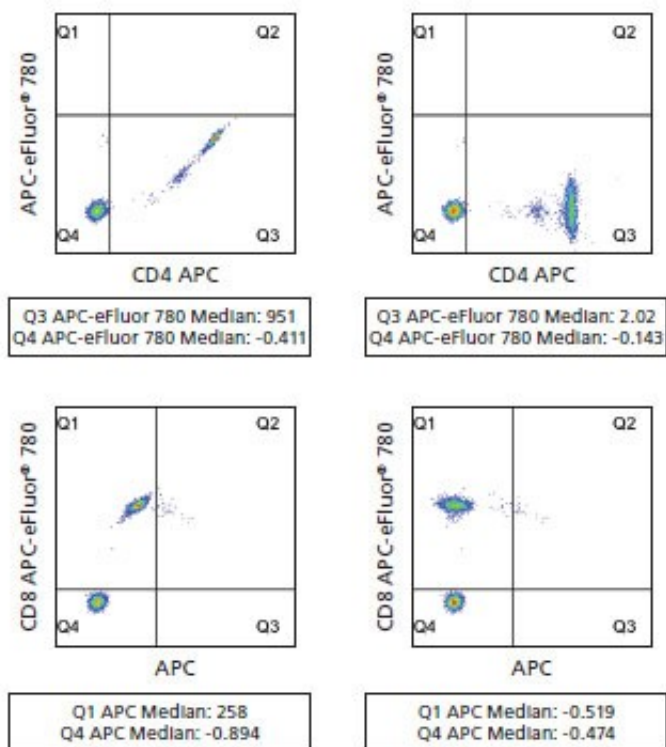

Figure 3 Single-color samples for APC (top row) or APC-eFluor™ 780 (bottom row). Uncompensated (left) or compensated (right) data are shown.
- a. Looking at the two-parameter plots for the fluorochrome collected, adjust the quadrants so that the positive events are fully contained within either the lower right or the upper left quadrant (Figure 3).
- b. Looking at the statistics, note the y- or x-median of the two populations. Adjust the compensation for the fluorochrome being collected (subtract its fluorescence out of the other channels being used in the experiment) until the medians of the two populations are the same (Figure 3).